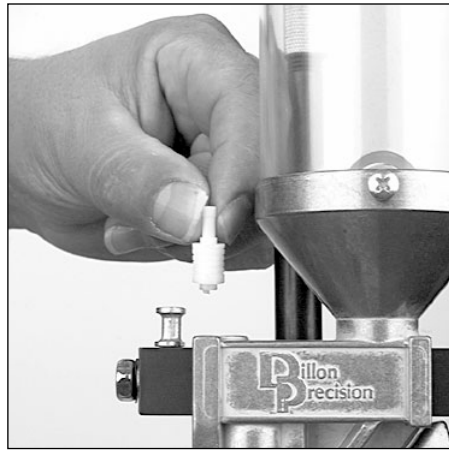

FIG 201
8. Re-install the white plastic retaining plug **FIG 201**:
- a) Large powder bar – FIG 201** The retaining plug has a short end and a long end. If the large powder bar is installed, insert the short end of the retaining plug into the hole in the top of the powder measure body. Note: The short end is used to hold the plug for safe keeping.